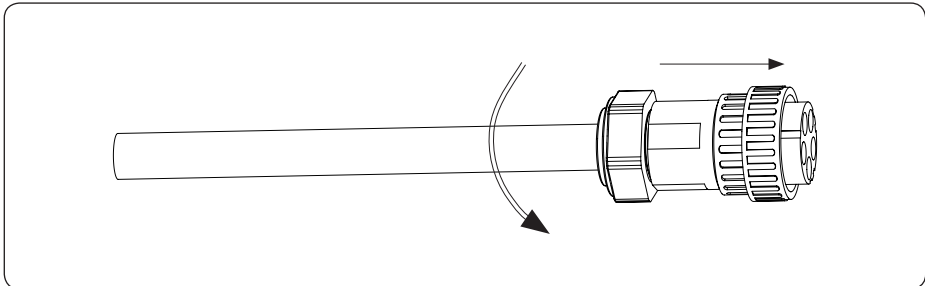

Figure 4-16
4) According to the arrow direction to push the threaded sleeve to make it connected with the AC terminal head and then rotate the cable gland clockwise to lock it. As shown in figure 4-16: